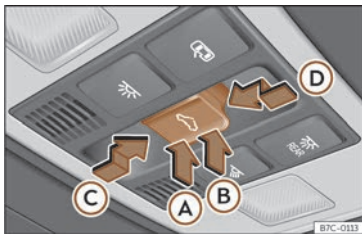

Fig. 61 On the interior roof lining: sunroof button.
The **Fig. 61** button has two levels. The first level switches the sunroof to the tilted position, opening or closing it fully or partially.
- Within approximately 5 seconds of having activated the roll-back function, press the  >>> Fig. 61 button to the second level in the direction of arrow  until the sunroof closes completely.